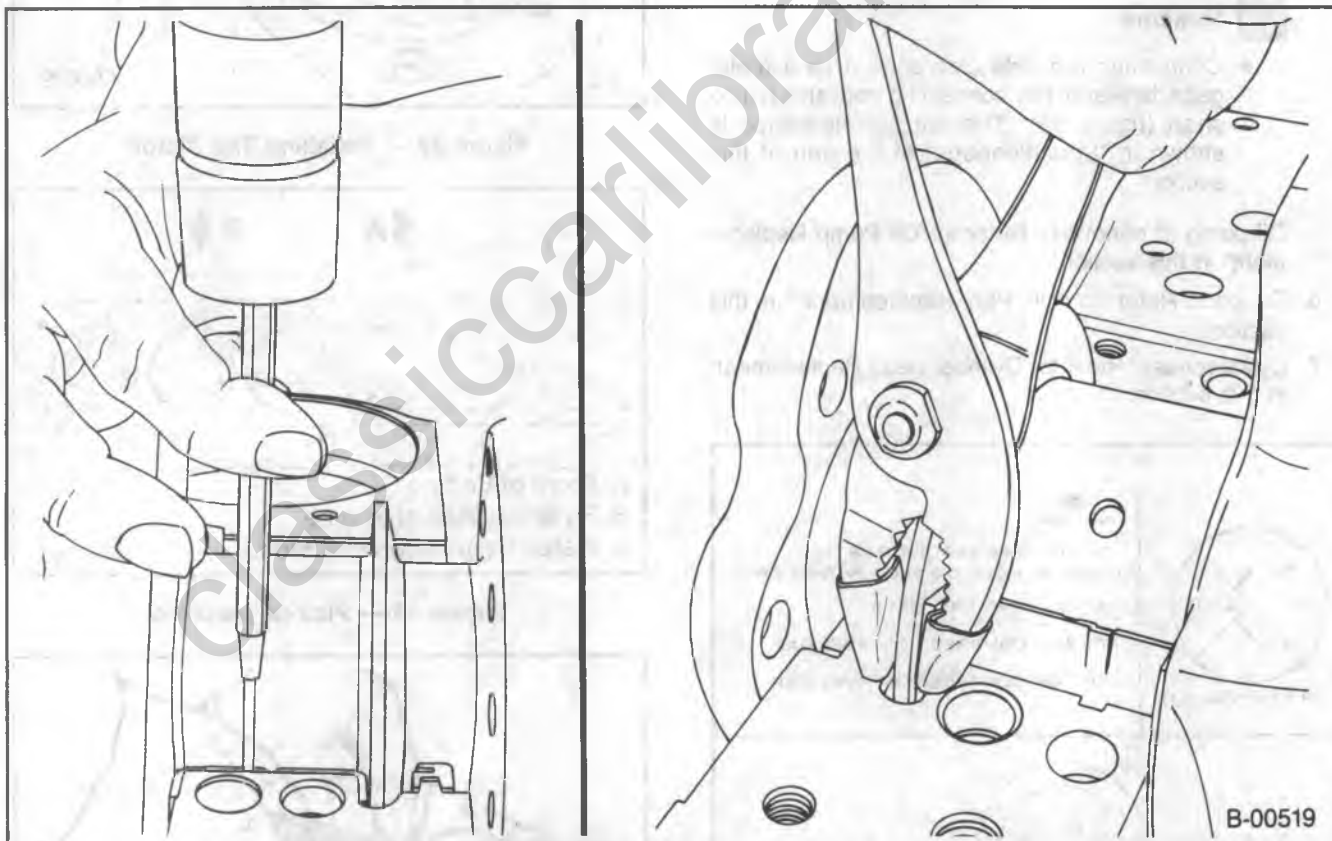

Figure 35 — Removing The Upper Rear Main Bearing Insert
Remove or Disconnect (Figures 35 and 36)
- Use a small brass drift and hammer. Tap on the insert, on the side opposite the bearing tang, until the insert rotates out of position (figure 35).
- Use a pair of pliers with the jaws taped to prevent damage to the crankshaft. Clamp the insert to the crankshaft flange (figure 35). Rotate the crankshaft to remove the bearing insert.
- Use pliers with taped jaws to clamp the bearing to the crankshaft as shown in figure 35. Rotate the crankshaft to "roll" the insert into the block. Then seat the insert using a small drift and hammer.